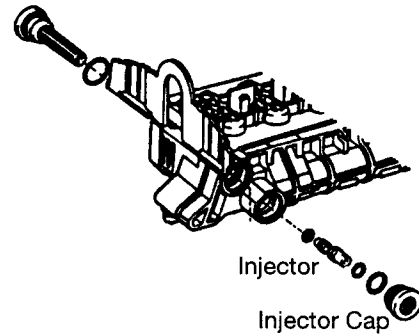

Figure 4
5. Using a screwdriver, unscrew and remove the injector screen and the injector cap, Figure 4.